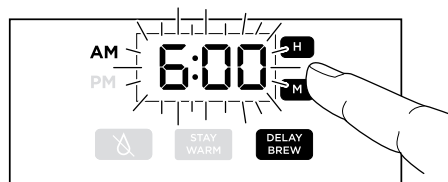

Fig. 19
- 3 Press DELAY BREW. DELAY BREW will illuminate and the clock will begin to flash "12:00" or the last Delay Brew time that was set (Fig. 19).